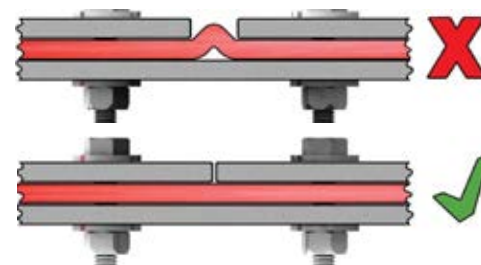

Fig. 6
- Adjust positioning of the clamp bars to ensure best fit and maximum gap of 3mm or 1/8 inch between adjacent clamp bars. Avoid pinching the expansion joint fabric (**See: Fig. 6**)